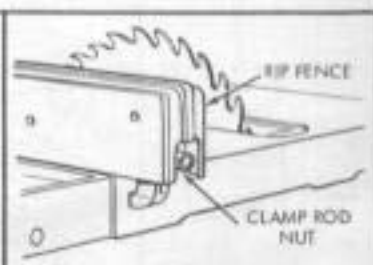

Figure 16
- If clamping action of lever (11, figure 1) is too tight or too loose, it can be changed by adjusting the clamp rod nut at rear of saw. (See figure 16.)